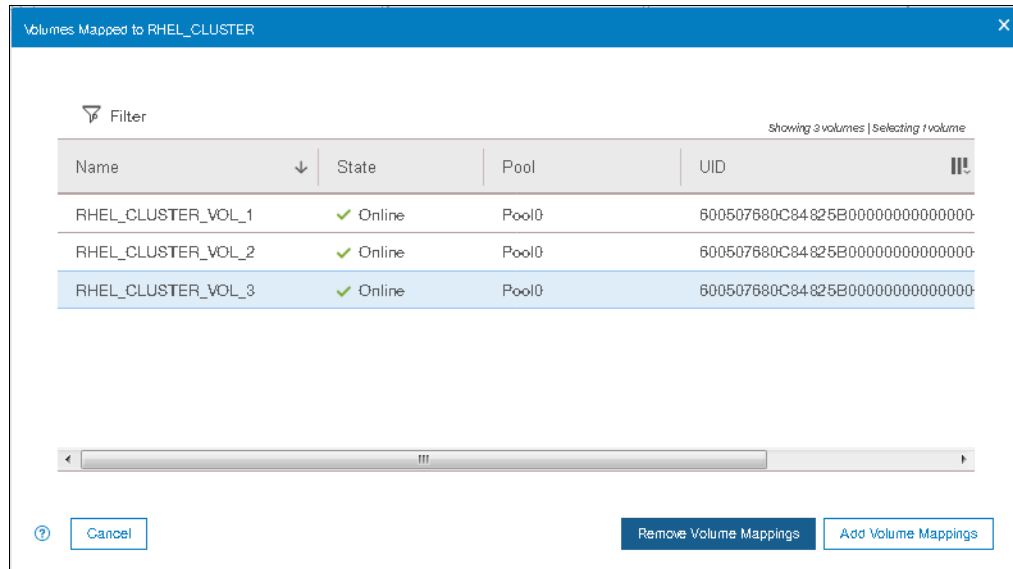

Figure 5-97 Selecting the volume to be unmapped
4. Select the desired volume to be unmapped as shown in Figure 5-97 on page 257.